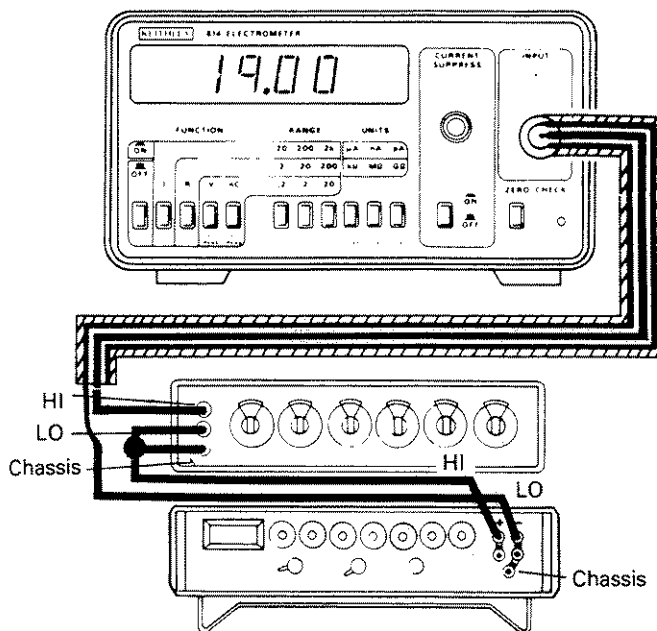

Figure 4-4. Resistor Standardization
- Select Current (I), 20nA range and depress ZERO CHECK.
- Configure the DC calibrator (Item A) decade resistor (Item E) and the Model 614 as shown in Figure 4-4.